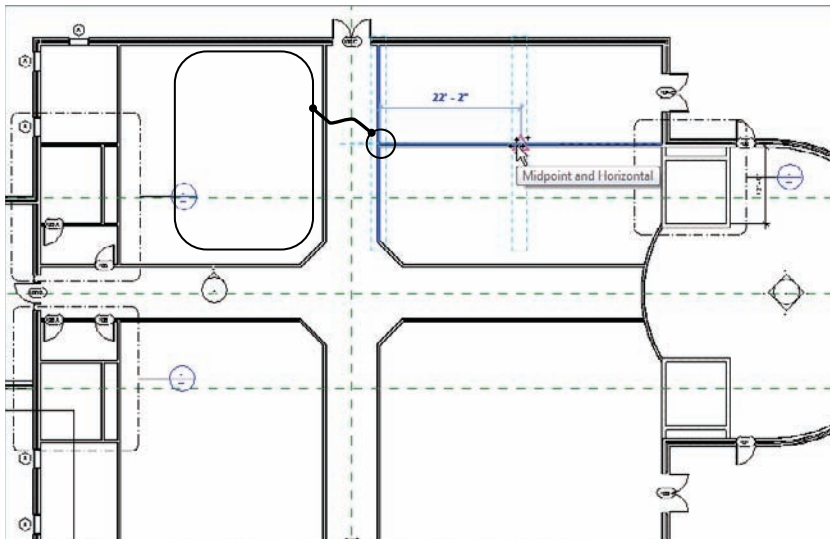

FIGURE 4.4 Creating a copy of the corridor wall
2. Zoom in so you are focused on the east wing in its entirety, as shown in Figure 4.4.
4. Zoom in on the wall close to the midpoint of the selected wall and the intersection of the horizontal wall that divides this portion of the building (see Figure 4.4).